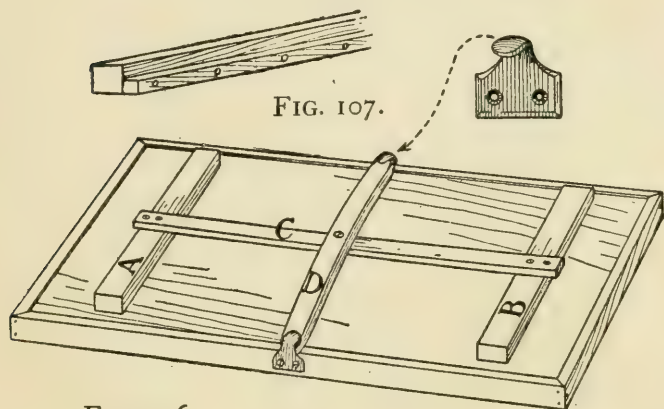

FIG. 106.
**A Home-made Printing-frame.** A good scheme is shown in Fig. 105. This may be made out of a picture-frame, or a similar frame can be made with the corners mitered and a rabbet formed on the inside by tacking narrow strips to the frame strips, as shown in Fig. 107. The wooden back must be provided with a spring attachment to make an equal pressure upon all parts, so there will be perfect contact between the paper and tracing at all points (Fig. 106). Make this back out of  $\frac{1}{2}$ -inch stuff, in one piece if possible, and fasten a cleat across it near each end to keep it from warping (*A* and *B*, Fig. 106), then cut strip *C* of the proper length to reach from *A* to *B* and strip *D* to reach from side to side of the frame. Screw *C* and *D* together at their centers, boring a hole through *D* for the screw to run through so this strip will turn easily, and screw the ends of *C* to *A* and *B*. Fasten a metal sash-lift in the proper place upon each side of the frame, and bevel off the ends of strip *D* enough so they will slip under them. The strips must be cut to the proper thickness so that strip *D* will have to be bent in the shape of a bow to slip its ends under the sash-lifts; this places a pressure upon strip *C*, which transfers it to strips *A* and *B*, and the latter distribute it over the back of the frame. The back of the frame should be covered with a piece of thin cotton-flannel; this must be glued in place and smoothed out carefully so there will be no wrinkles. A cheaper grade of paper than that used for photographic work is manufactured for blueprinting, and